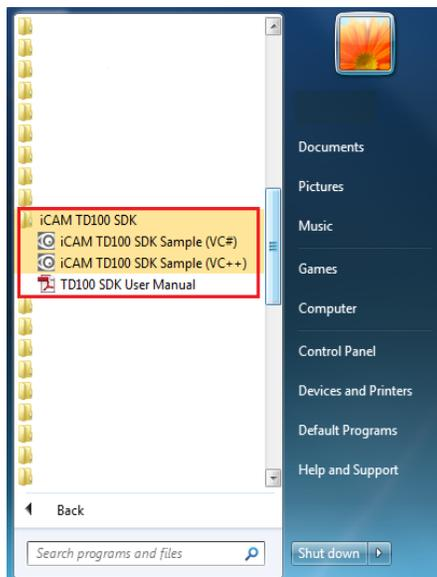

Fig. 2
*Once the driver and software have been properly installed on your Windows 7 or Windows XP PC, you are now ready to plug-in your powered USB cable connection from the iCAM TD100 to the computers USB 2.0 (or above) port. A message balloon indicating that new hardware has been properly installed may appear when the USB cable is inserted. Access the installed software by going to your programs screen from the start button on the PC (Fig. 2). If using Windows 7 x64 (64-Bit), follow the steps in section 4.2 for device installation (for Windows 7 64-bit OS only).*